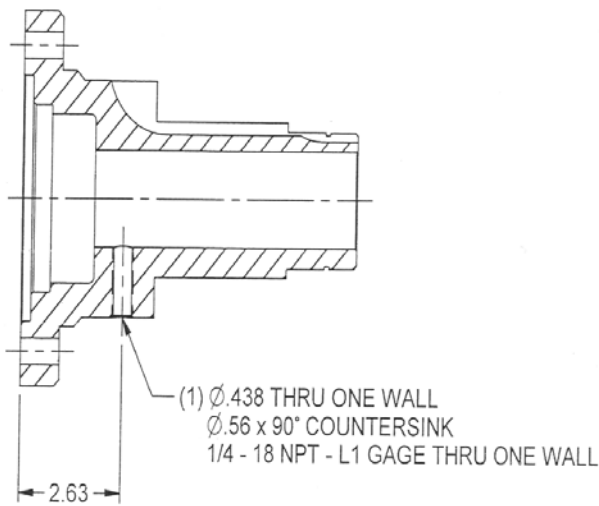

Fig. 1 Modification Required for 15L641 Seaming Cam Hub
- 7) Modify 15L641 seaming cam hub per Figure 1.